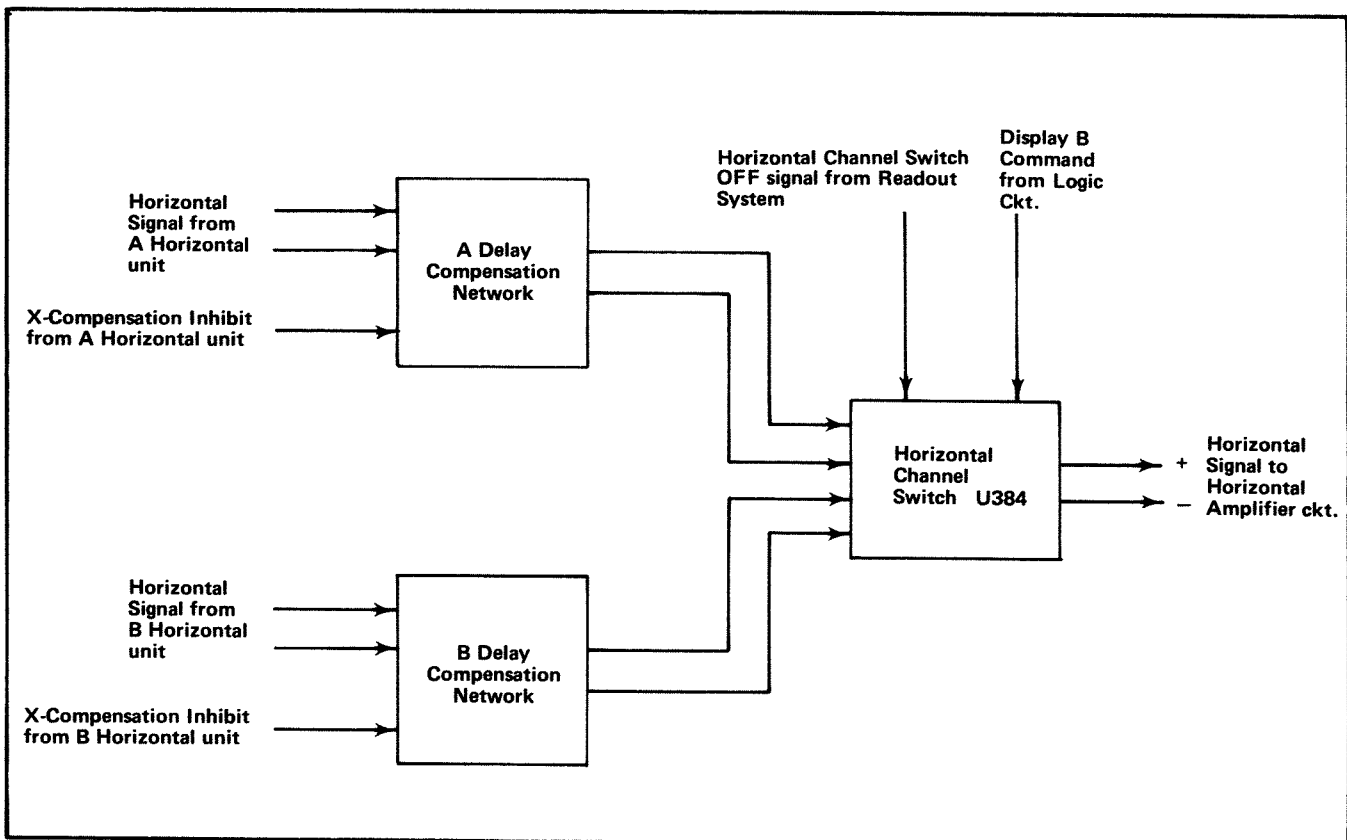

Fig. 3-27. Horizontal Interface Detailed block diagram.
The X-Y Delay Compensation network provides a delay for the horizontal (X) portion of an X-Y display to match the delay of the vertical (Y) signal due to the Delay Line. The Horizontal Interface portion of the circuit selects the horizontal deflection signal from the output of the A Horizontal and/or the B Horizontal plug-in unit. Fig. 3-27 shows a detailed block diagram of this circuit. A schematic of this circuit is shown on diagram 6 at the rear of this manual.